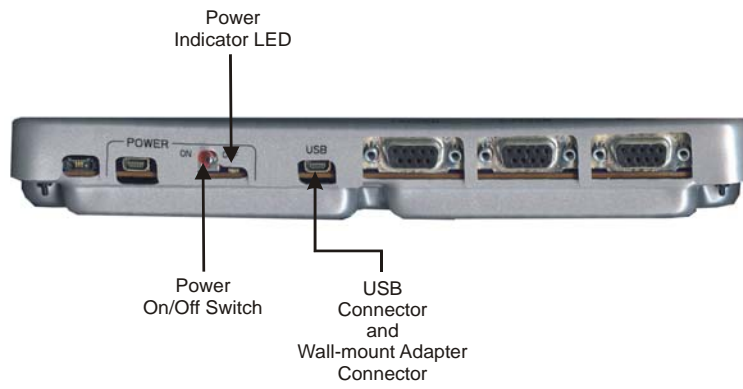

Figure C-3: Developer Board Power Switch and Mini-AB USB Connector
Caution: Before connecting the power supply, make sure that the Developer Board On/Off Switch (located in the rear of the board, as shown in Figure C-3) is in the OFF position.
Caution: When using the Wall-mount adapter, make sure to insert it the Mini-AB USB connector (J380), as shown in Figure C-3.
1. Connect the supplied Wall-mount adapter to the Mini-AB USB connector (J380) (see Figure C-3).